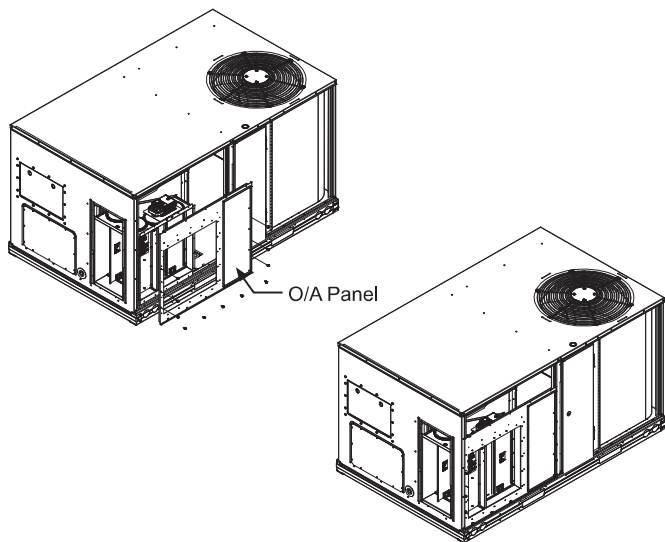

Fig. 9 - Typical Installation of OA Panel
8. Locate and attach the Outdoor Air (OA) Panel with provided #10 x 5/16" to the RTU See Fig. 9.